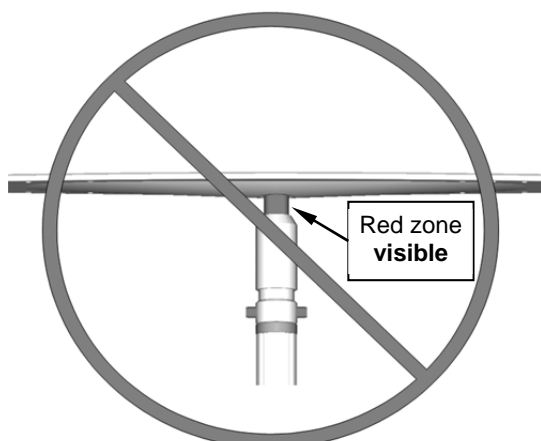
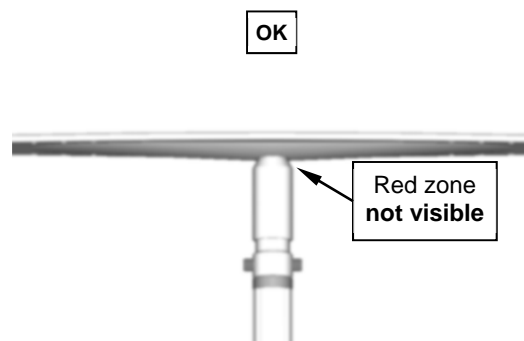

Figure 19
Figure 20
16. Once the bubble is in the centre of the clip-on level – continue to tighten **ONLY** until the red zone at the top of the post is no longer visible (see Figure 19 and Figure 20).